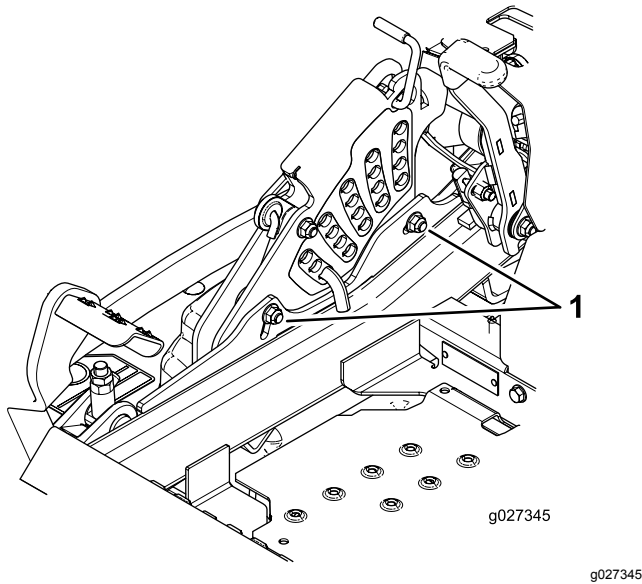

Figure 98
11. To adjust the single-point system, loosen the 2 bolts at the bottom of the height-of-cut plate (Figure 98).
13. Tighten the 2 bolts at the bottom of the height-of-cut plate (Figure 98).